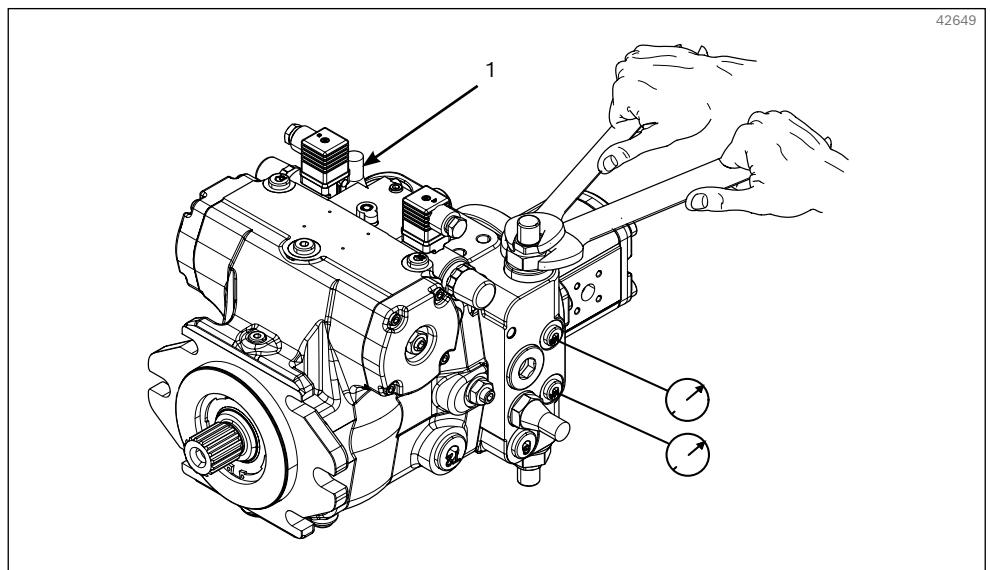

Fig. 26: Setting high pressure relief valve
To block the pressure cut-off (item 1 in Fig. 26) when testing the high pressure valves, the adjustment screw, with the lock-nut loosened, has to be screwed in **with a max. torque of 2 Nm in the depressurized condition** until the end stop is reached.
Adjust the high pressure relief valve on A-side if needed, see Fig. 26